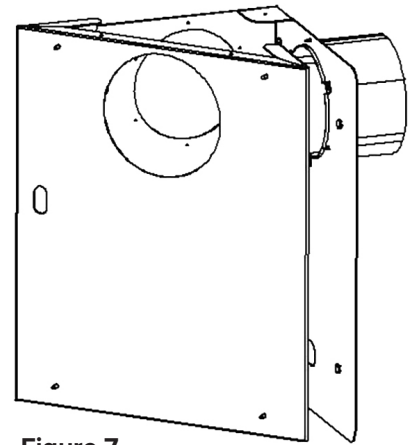

Figure 7
7. Attach the mounting plate (that came with your fireplace) to the corner wall mount unit and fasten in place with (4) lock nuts and washers. **See Figure 7.**